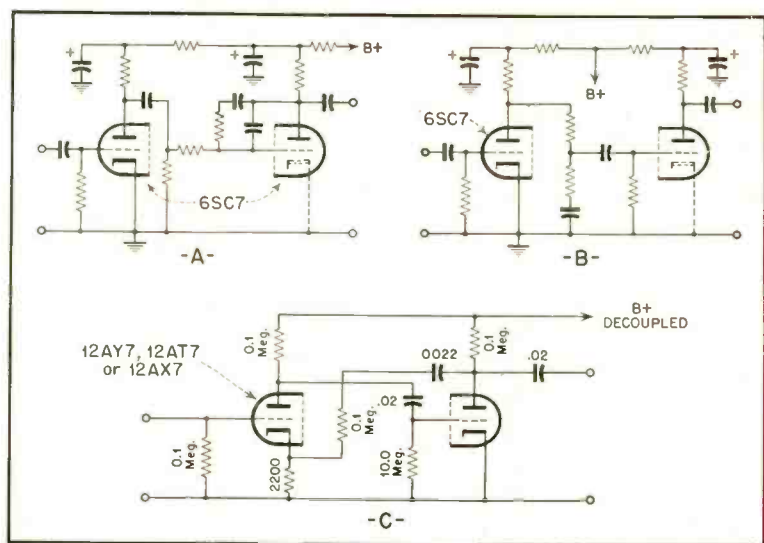

Fig. 5. Preamplifier circuits: (A) Burwen; (B) General Electric; (C) Modified Pickering circuit used in plug-in preamplifier (see text).
such as shown in Fig. 5, were considered before that shown at (C)—a modified Pickering circuit—was finally decided upon. The familiar circuit of (A), popularized in the G.E. preamplifier, was rejected because it can be overdriven easily and because it has a fairly high output impedance for use where the capacitance of long shielded lines may be encountered. The circuit of Burwen³, shown at (B), is also easy to overdrive, and it is difficult to obtain flat high-frequency response due to the loading of the feedback network by the Miller effect in the second stage.